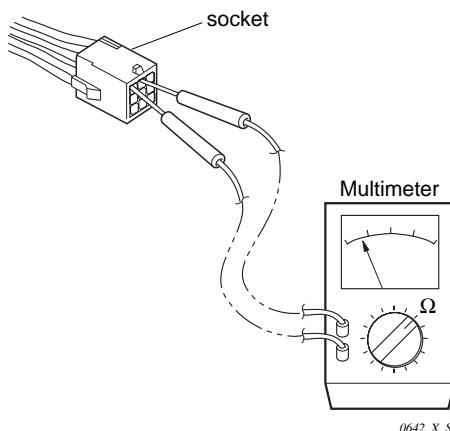

Fig. IV-18
(2) Checking the Protective Devices
- Then check continuity among plug's (and/or socket's) terminal as in **Fig. IV-18**.